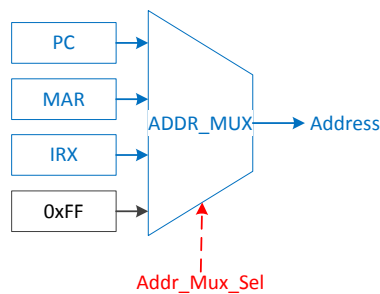

Figure 5: Simple Multiplexer (Mux)
- 2.4. Implement the multiplexer program that you made in the Prelab, as shown in Figure 5. To test the multiplexer we need to hard wire in Verilog `Rst_Addr` to `0xFF` `PC` to the address `0x0A`, and `MAR` to `0x10`. Connect `IRX` to the 8 DIP switches, and `Mem_Sel` to the 2 push-button switches on the board.